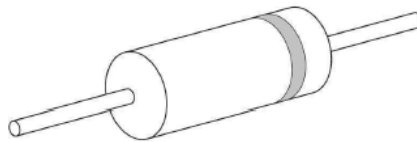

Fig. 4.3
- (b) Fig. 4.3 shows a diagram of the diode.
- (i) On Fig. 4.3, draw